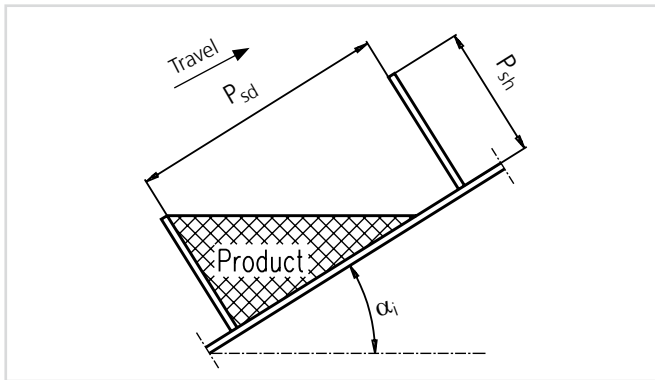

Fig. 5-5 Situation 1
1. The distance between the product supports will allow the product to lie as shown on fig. 5-5.
If $\text{InvTAN} \left(\frac{P_{sh}}{P_{sd}} \right) \leq \alpha_i$ - you have situation 1 on Fig. 5-5